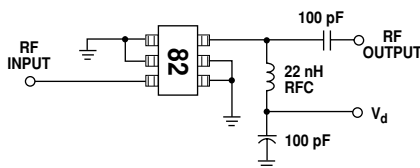
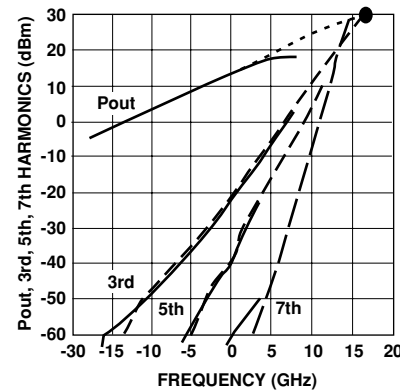
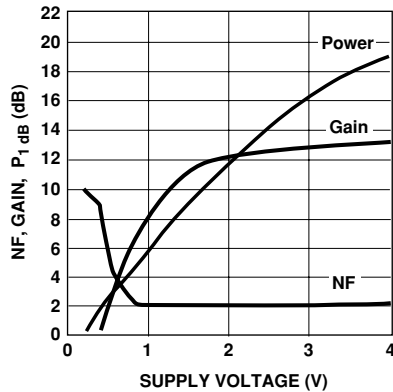

Figure 10. Test Circuit.
Figure 18. Intermodulation Products vs. Input Power. ($V_d = 3.0$ V)
Figure 19. Gain, Noise Figure, and Output Power vs. Supply Voltage.
1. Guaranteed specifications are 100% tested in the circuit in Figure 10 in the Applications Information section.
The circuit shown in Figure 10 is used for 100% RF testing of Gain and Noise Figure. The test circuit is merely a 50Ω input/output PC board with a RFC at the output to apply DC bias to the device under test. Tests in this circuit are used to guarantee the NF_{test} and G_{test} parameters shown in the table of Electrical Specifications.
Like other active devices, the intermodulation products of the MGA-82563 increase as the device is driven further into nonlinear operation. The 3rd, 5th, and 7th order intermodulation products of the MGA-82563 are shown in Figure 18 along with the fundamental response. This data was measured in the test circuit in Figure 10.
While the MGA-82563 is designed primarily for use in +3 volt applications, the internal bias regulation circuitry allows it to be operated with power supply voltages from +1.5 to +4 volts. Performance of Gain, Noise Figure, and Output Power over a wide range of bias voltage is shown in Figure 19. (This data was measured in the test circuit in Figure 10.) As can be seen, the gain and NF are fairly flat, but an increase in output power is possible by using higher voltages. The use of +4 volts increases the P_{1dB} by over 2 dBm.